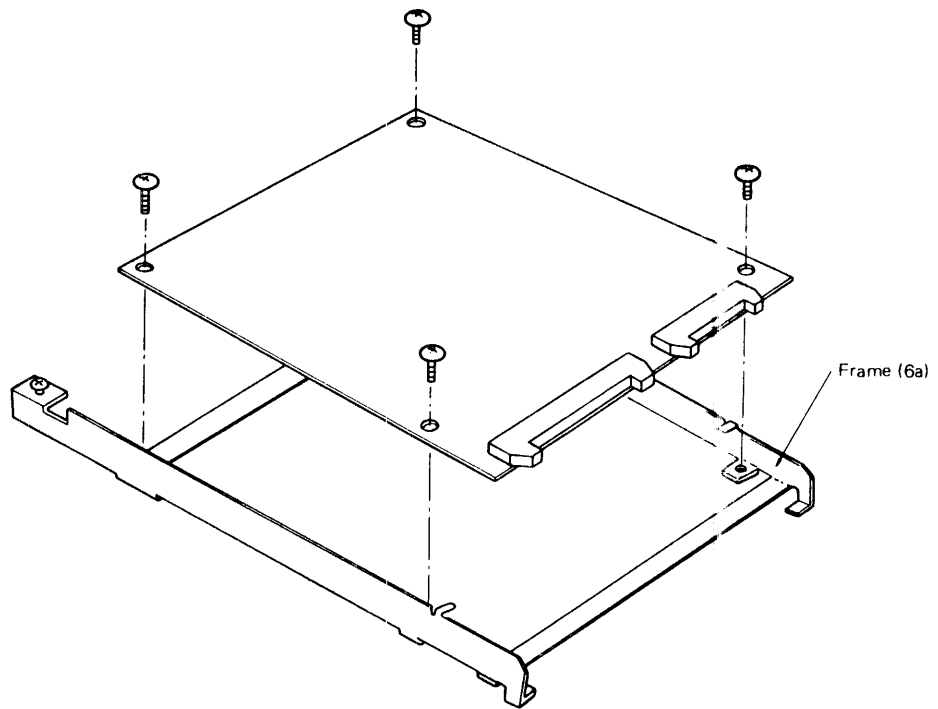

Figure 3-5-14 Dual Channel Option Installation 2
- ① Mount the bracket (2a) on the rail (1a) using screws SBD M3x5. The left and right brackets and rails are symmetrically mounted.
- ② Mount the spring (3a) on the rail (1a) using screws SBD M2x5. The left and right brackets and rails are symmetrically mounted.
- ③ Mount the rails (1a) on the power supply unit using screws SSA M4x8.
- ④ Mount the guide (4a) at the back (operating section) of the power supply unit using screws SBD M4x8.
- ⑤ Mount the dual channel PC board on the frame (6a) using screws SBD M3x5. (See Figure 3-5-14.)
- ① Mount the dual channel PCB on frame as shown in Figure 3-5-14.